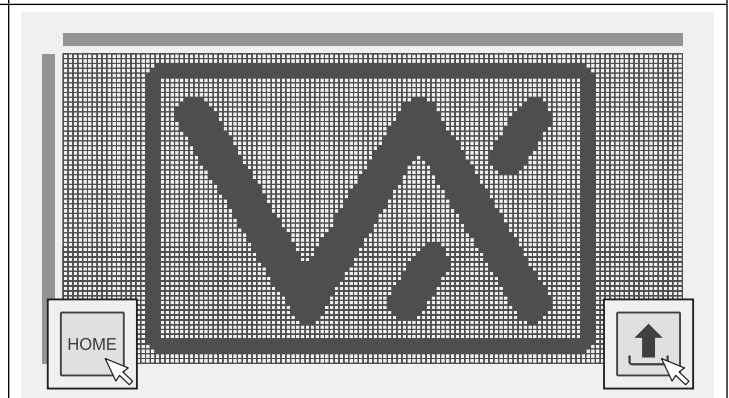
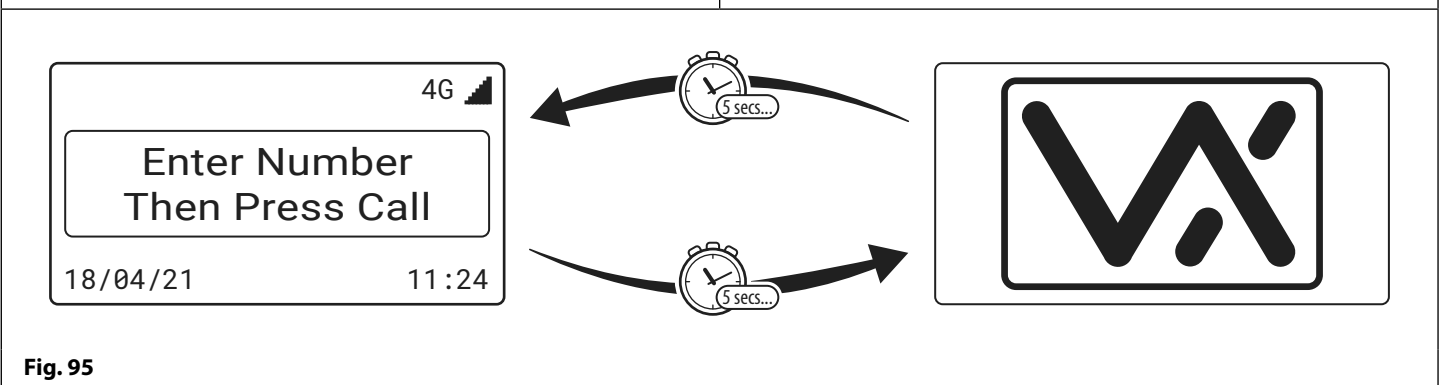

Fig. 94
Fig. 95
- Click on the home screen icon again to toggle back to the imported image/logo from step 1 and then click on the upload to panel icon, as shown in **Fig.94**. This image/logo will be uploaded back into the panel (including any edits made to it from step 6).
After the display switch time has elapsed it will then switch to the 2nd home screen (i.e. the company logo that was uploaded from **Fig.94**) and then switch back again to the new default home (welcome) screen and so on, as shown in **Fig.95**.